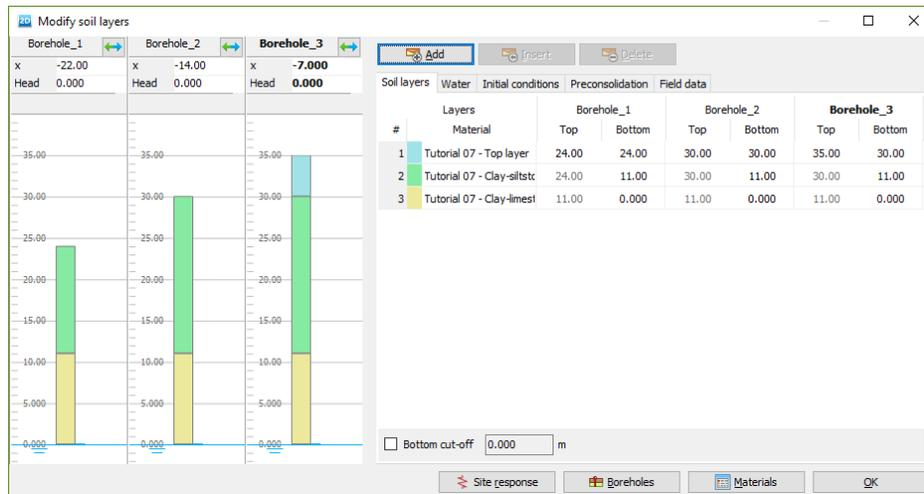

Figure 88: Soil layer distribution
10. Specify the soil layer distribution as shown in Figure 88 (on page 105).
1. Create soil material data sets according to Table 16 (on page 105) and assign them to the corresponding layers (Figure 88 (on page 105)).